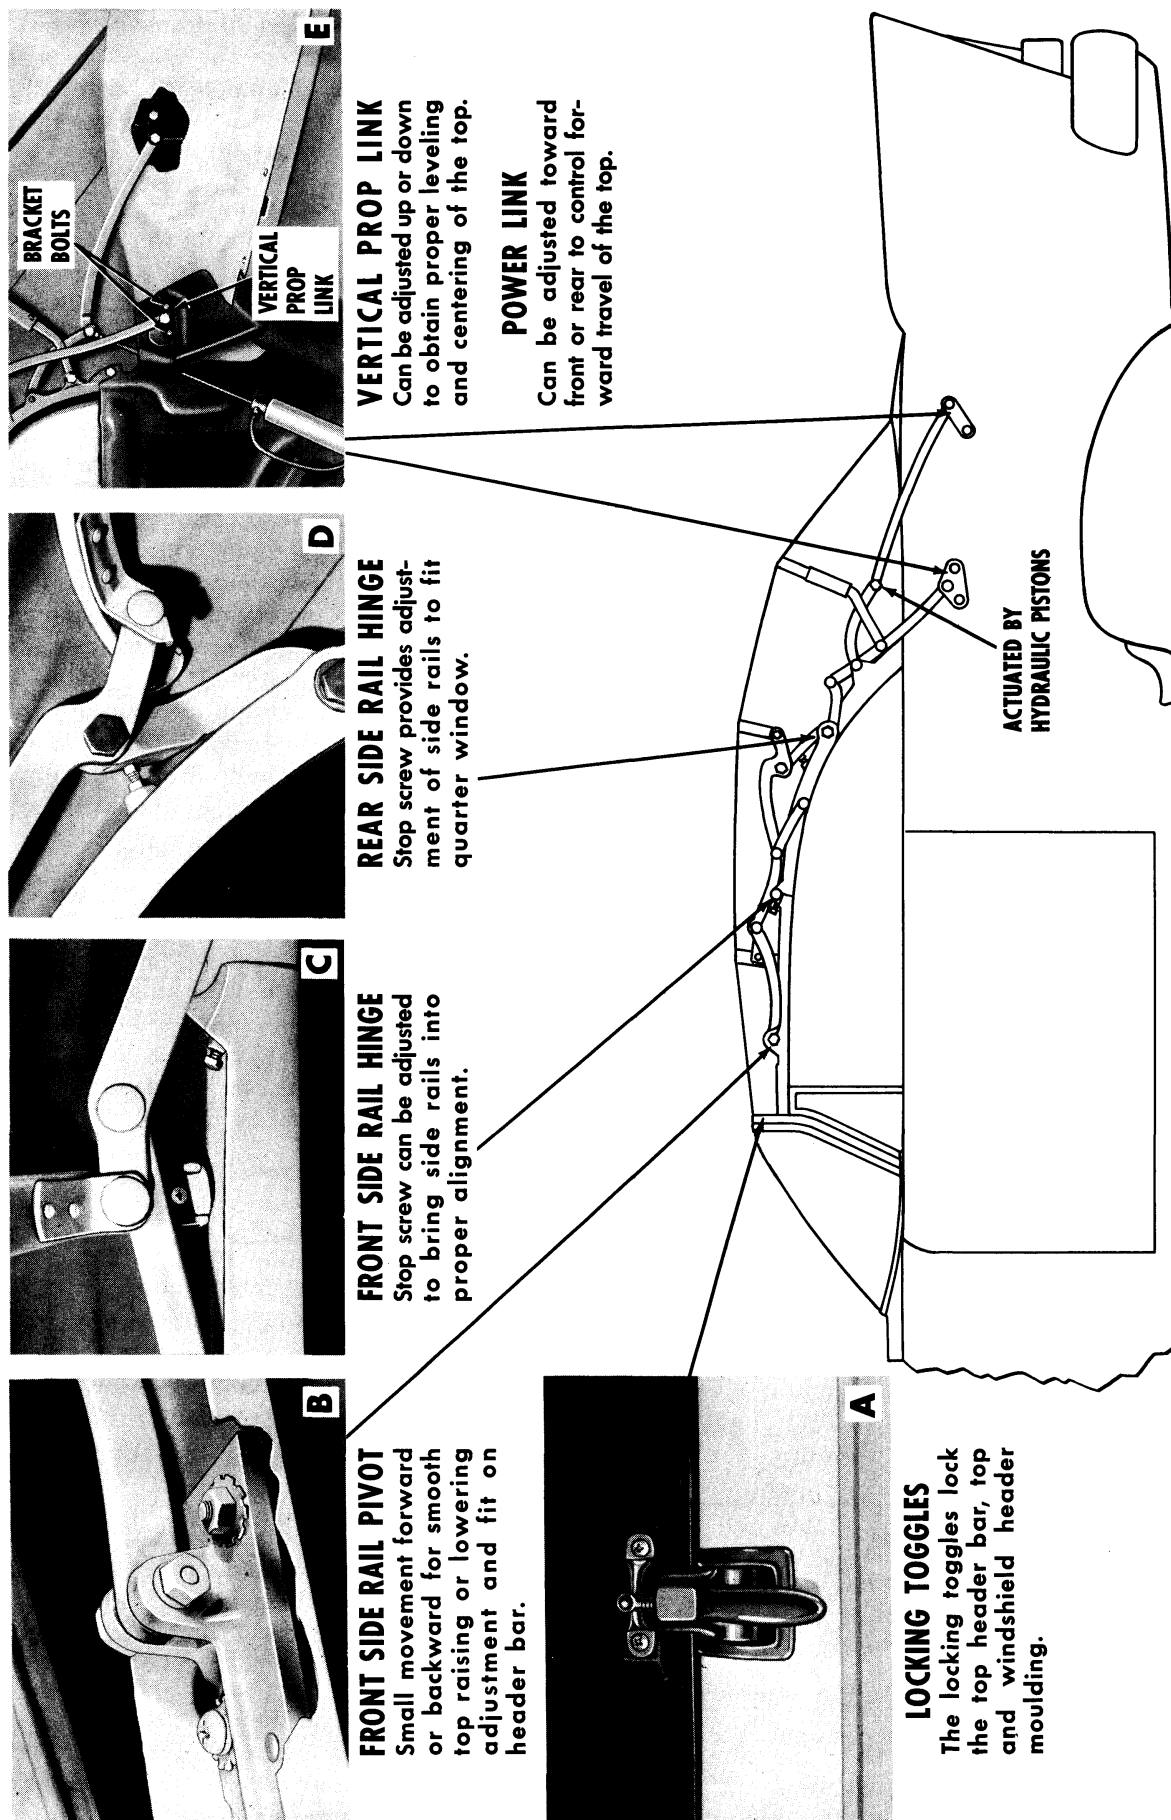

Figure 95—Top Alignment and Linkage Adjustment
If difficulty is encountered in raising or lowering the top with the motor running, and sufficient fluid in the reservoir, and the pivot points are not binding, the cause is probably due to improper linkage alignment and adjustment. See Figure 95.
POWER LINK ADJUSTMENT—With the top and all door and quarter glasses in the raised position, carefully inspect both door glasses and quarter glasses for proper fit to the top side rail seals and vertical seals. Adjustments for proper sealing of the quarter glass to the roof rail weatherstrip is made at the power link adjustment bracket with the top in the partially raised position. See (E) in the inset of Figure 95.
ROOF SIDE RAIL ALIGNMENT — PROP LINK ADJUSTMENT—The adjustment for proper sealing of the roof side rail seals above the door glass and of the header panel to the windshield locking dowels is mainly controlled by the vertical prop links which are fastened in the quarter panel pockets. See (E) in inset of Figure 95.
Two additional adjustments also affect the folding top side rail seals at the top of the door glass. They are the front side rail hinge stop screws and the rear side rail hinge stop screws. See insets (C) and (D) of Figure 95.
If the front side rail hinge joint is jackknifed closed, turn the front side rail adjustment screws clockwise until satisfactory alignment is obtained. See inset (C) of Figure 95.
TOP HEADER PANEL ADJUSTMENT—After the previous adjustments have been performed and the header panel does not close easily on the header dowels, further adjustment is provided to move the header panel forward or backward. Loosen the header panel to side rail screws and shift the header panel forward or backward as required. See inset (B) of Figure 95.